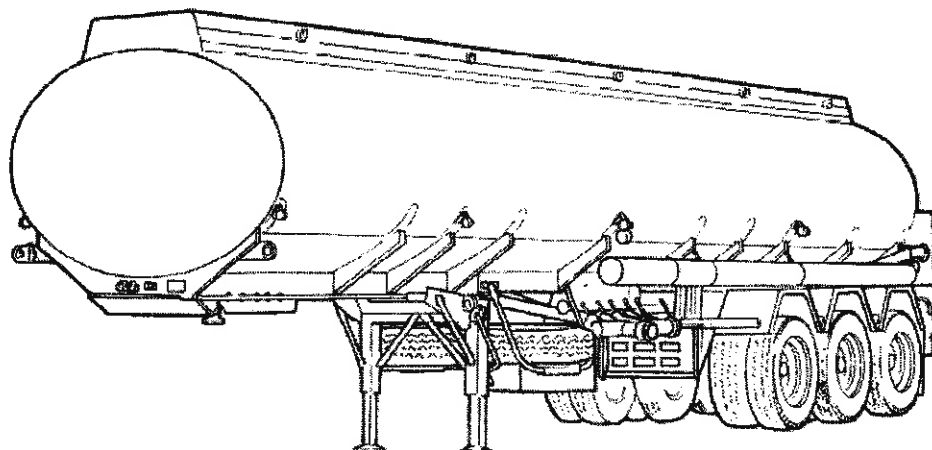

Figure 1 Semitrailer, Tank, Water, Heavy, MC4 – Fruehauf 37 000 Litre
1. This EMEI details all Light Grade Repair procedures for the Semitrailer, Tank, Water, Heavy, MC4 - Fruehauf 37 000 Litre (Figure 1).